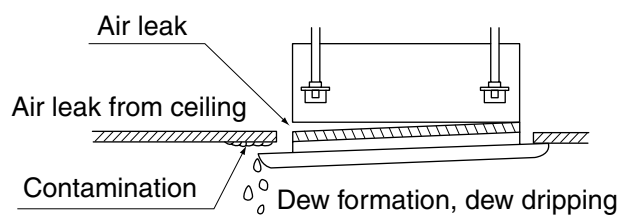

Fig. 6
- Improper screwing of the screws may cause the troubles shown in Fig. 6. Screw properly.